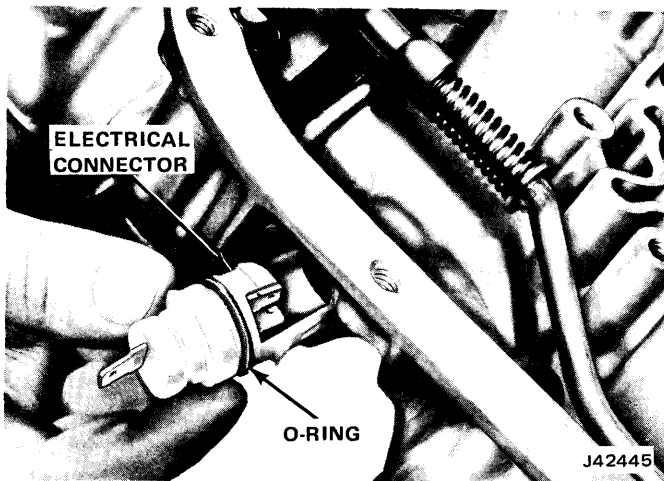
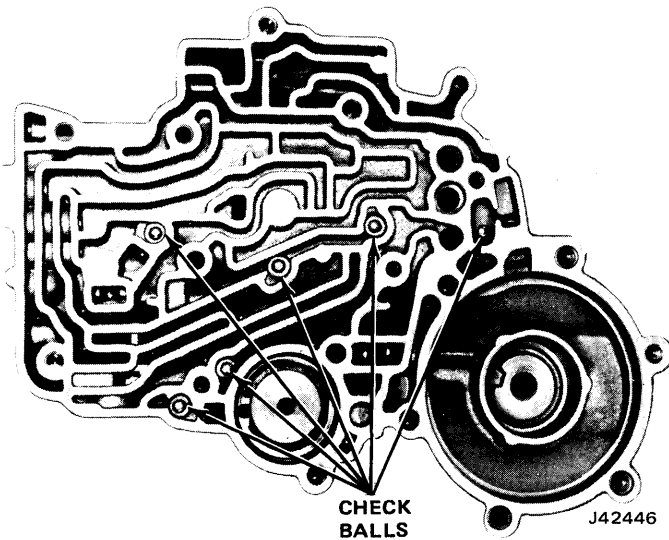

Fig. 7-16 Removing—Installing Electrical Connector and O-Ring
Fig. 7-17 Control Valve Check Ball Location
- (2) Remove detent solenoid electrical connector and O-ring seal (fig. 7-16).
- (3) Remove control valve spacer plate and gasket.
- (4) Remove six check balls from passages in case (fig. 7-17).